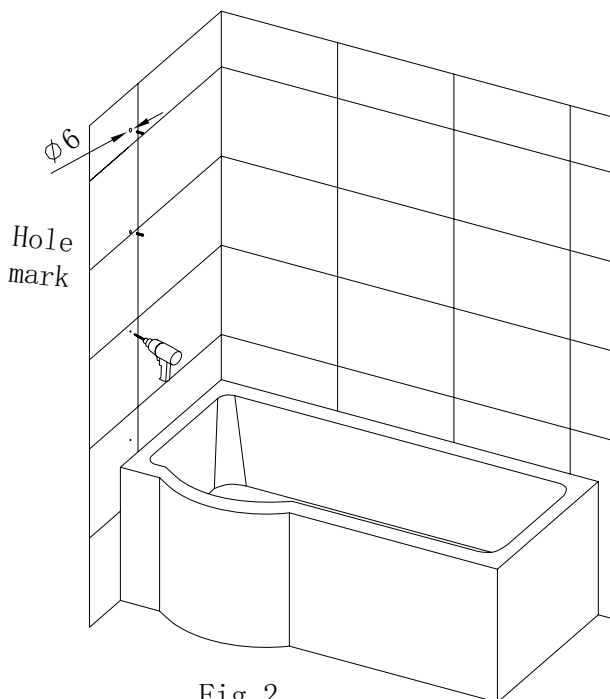

Fig. 2
- 2) Drilling the holes) 4--  $\phi 6$ mm (according the mark ,insert the plastic plug into the hoes .As Fig.2 .